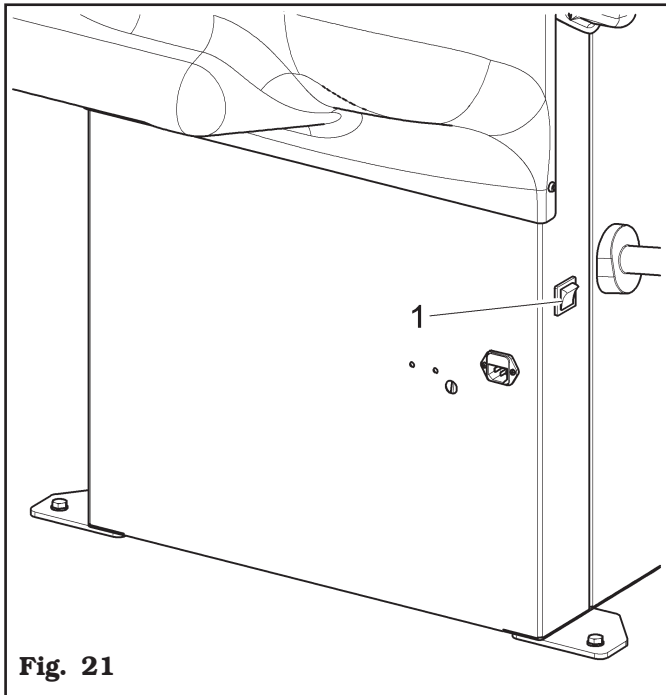

Fig. 21
Once the plug/socket connection has been made, turn on the machine using the master switch (Fig. 21 ref. 1).
Press the "ON" switch (Fig. 21 ref. 1), located in the rear part of the equipment.